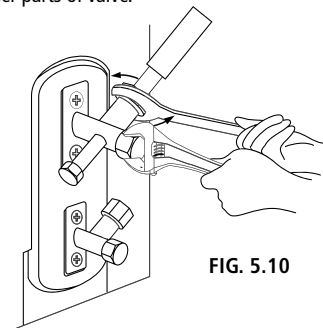

FIG. 5.10
- 4 Using a spanner, grip the body of the valve. **DO NOT** grip the nut that seals the service valve. (See FIG. 5.10)